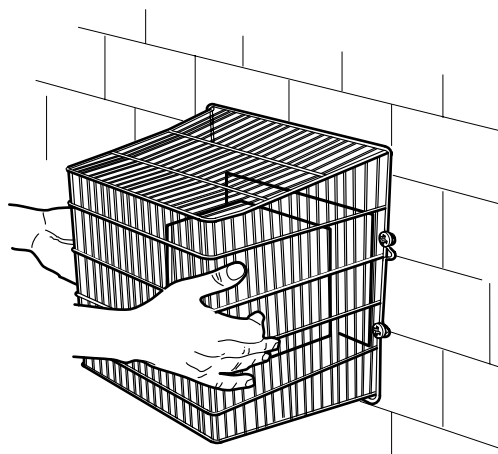

Fig. 28
- 15 Fit the terminal guard over the flue terminal and secure using the screws and plugs supplied. See Fig. 28.
- 1 Remove and retain the burner fixing nut from the stud on the burner fixing flange on the front of the boiler, see Fig. 28. Leave the small nut in position (ensure it is located up against the mounting flange).